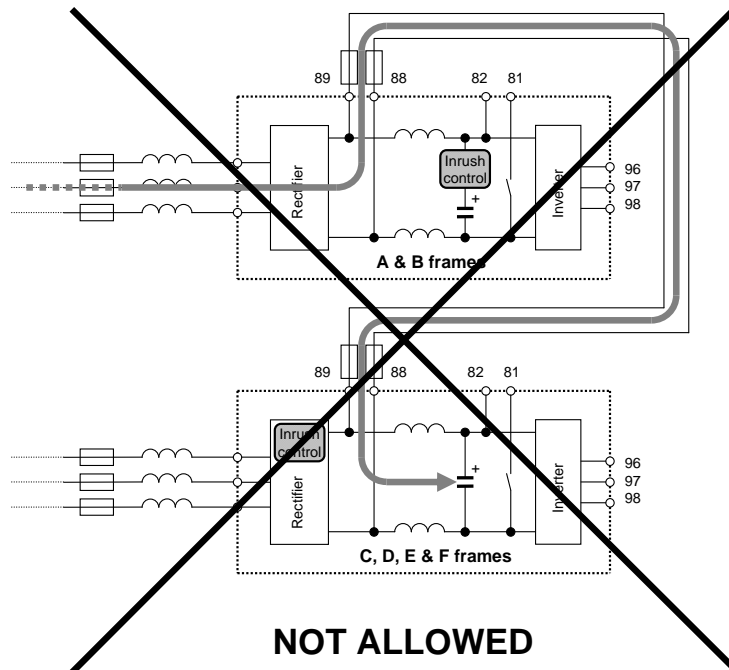

Figure 4 Risk of device failure if A / B frame sizes are combined with C, D, E, or F frame sizes and supplied from mains.
- If the A/B frame size frequency converter is not connected to mains, A and B frame sizes can be combined with C, D, E, or F frame sizes. See Figure 4.